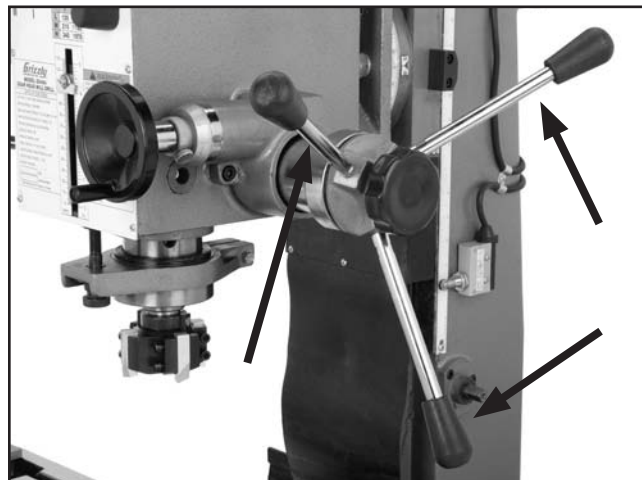

Figure 9. Downfeed handles installed.
3. Thread the quill feed levers onto the downfeed hub and tighten with a 12mm wrench (see **Figure 9**).